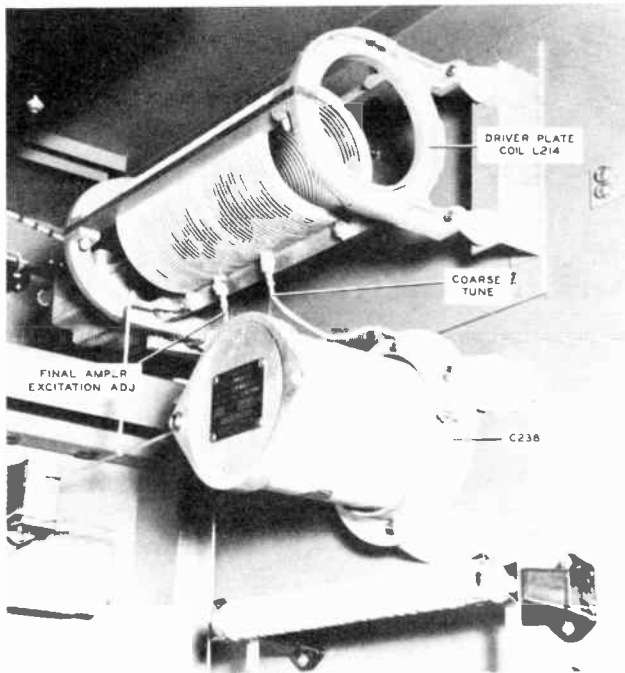

Figure 3-2 Driver Amplifier Plate Tank Inductor
(2) Remove the power amplifier grid tap from L214. (By removing this tap a better indication of resonance may be obtained.)
(3) The intermediate amplifier plate circuit may now be tuned.
(4) Close the INTERMEDIATE VOLTAGE circuit breaker.
(5) Rotate the CIRCUIT-METER SEL switch to the INT. AMP GRID and TUNE position. The POWER switch should remain in the TUNE position.
(6) Pull the PLATE start-stop control.
(7) Operate the ADJUST control. Tune for minimum cathode current of the intermediate amplifier as indicated by a slight dip on meter M303. If the point of resonance cannot be found, it will be necessary to adjust the tap on inductor L214. Refer to figure 3-2. Change the tap in steps of not more than 2 turns at a time until resonance has been established.